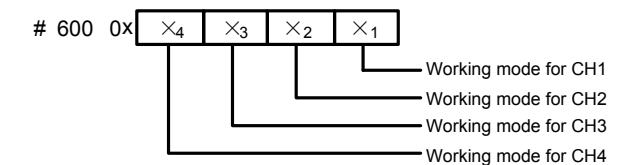

Figure 2-1 Mode setting element vs. channel
6. BFM#600: channel mode setting, used to set the working modes of CH1 ~ CH4. See Figure 2-1 for their correspondence.